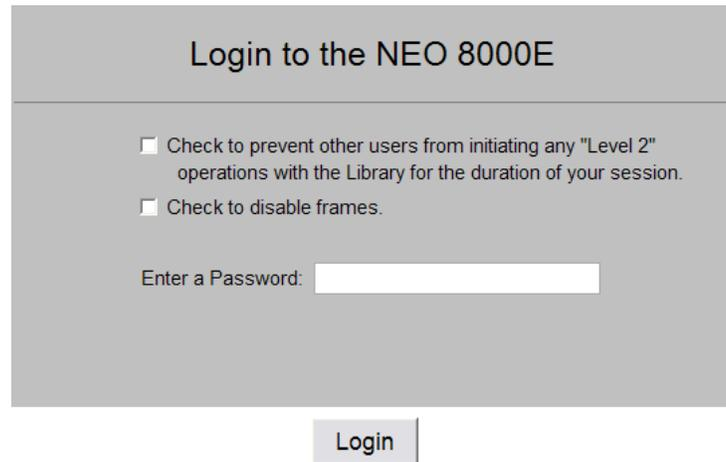

Figure 6-5: RMI Login Screen
2. At the Login screen (Figure 6-5):